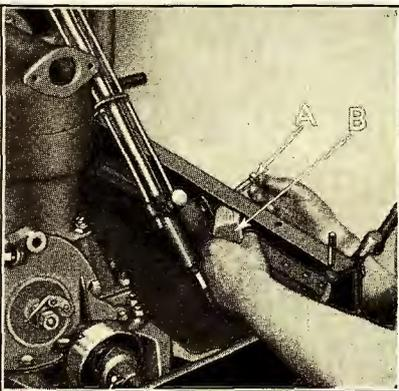

Fig. 34
- (b) Run off nut on end of steering gear bracket bolt—side and withdraw bolt (See "A" Fig. 34). Steering gear bracket block "B" can now be lifted from channel of frame.